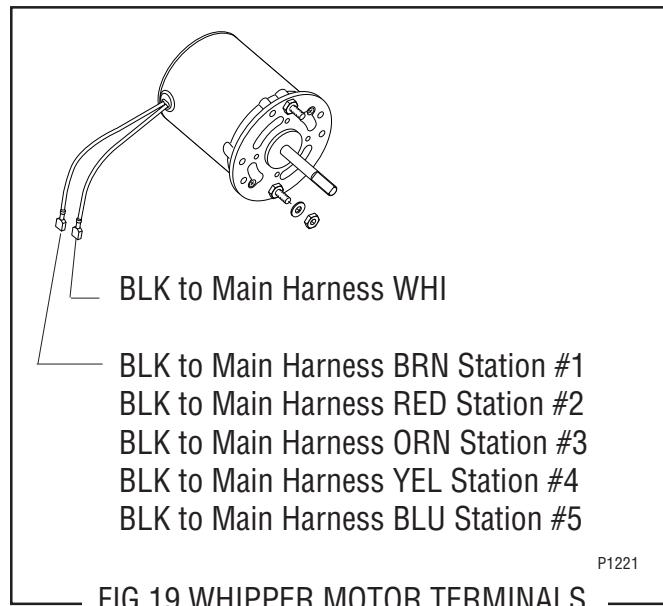

FIG.19 WHIPPER MOTOR TERMINALS
14. Disconnect the black leads on the motor (10) from the main wiring harness.
16. Install new motor (10) on rear of front panel and secure with two nuts (8) and connect black leads on the motor to the main wiring harness. Refer to Fig. 19 when reconnecting wires
17. Slide slinger (9) onto the motor shaft flush against the front panel.
20. Slide whipper chamber receptacle w/seal (7) and O-ring (5) on to the motor shaft.
21. Rotate the receptacle w/seal (7) counterclockwise until it snaps into place on the motor mounting nuts (8).
22. Push frother (6) onto the motor shaft, making sure the flat in the frother (6) lines up with the flat on the motor shaft.
23. Install whipper chamber (4) on the whipper chamber receptacle (7) by twisting counterclockwise until the tabs on the whipper chamber (4) lock with the tabs on the whipper chamber receptacle (7). Be sure dispense port is pointing down.
24. Install dispense tip (3) into the bottom of the whipper chamber (4).
26. Install vacuum hose (12) on fan baffle (13).